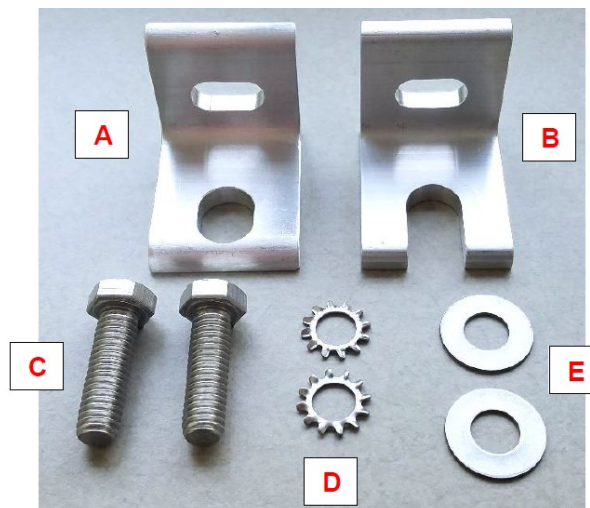
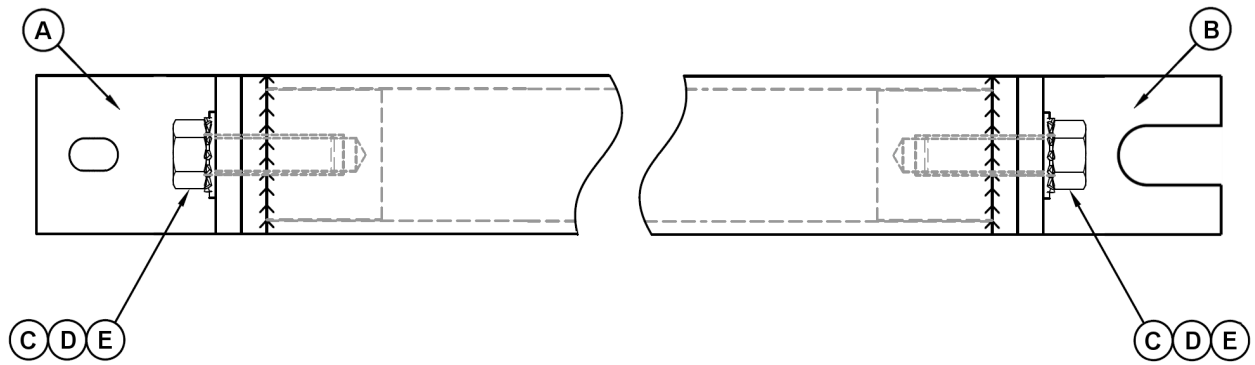

Figure 2 - Bracket Hardware
Figure 3 - Brackets Attached to Beam
Each beam is supplied with mounting brackets and associated hardware (Figure 2). To mount the brackets to the beam: Slide the external tooth lock washers (D) onto the bolts (C), followed by the flat washers (E). Use the bolts to attach the mounting brackets to the ends of the beam. Figure 3 shows the completed assembly.